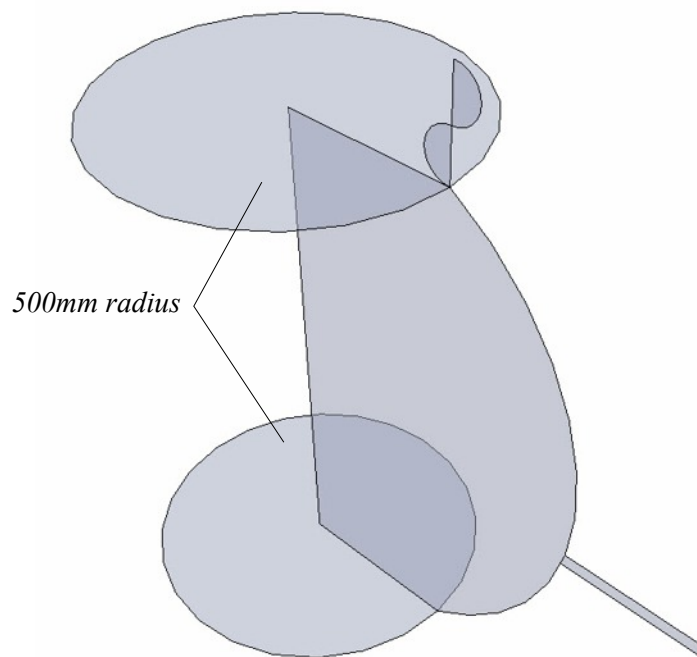

Figure 97. 500mm radius circles drawn at both ends of the vertical profile line
- Draw 2 circles with their centres at the bottom and top of of the profile line with a radius of 500mm as shown in Figure 97.